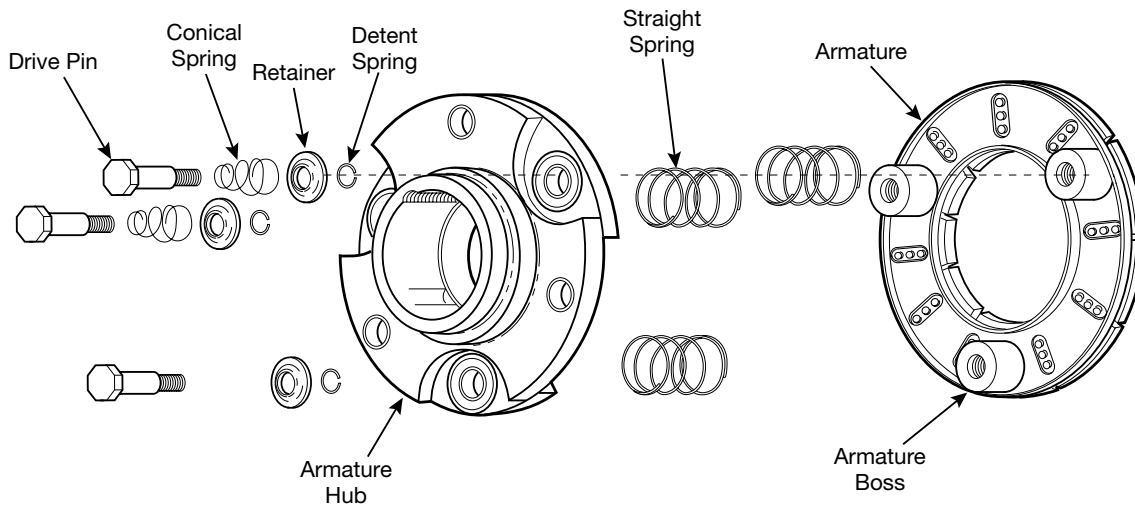

Figure 7
3. The autogap assembly is a double spring device which allows for automatic armature clearance and adjustment for wear. The smaller or conical spring pushes the armature from the magnet face, leaving a gap of about 1/32 inch, while the straight spring automatically follows up for wear. This combination maintains maximum performance efficiency throughout the life of the unit. The assembly procedure for the autogap accessory is as follows: (Figure 7)